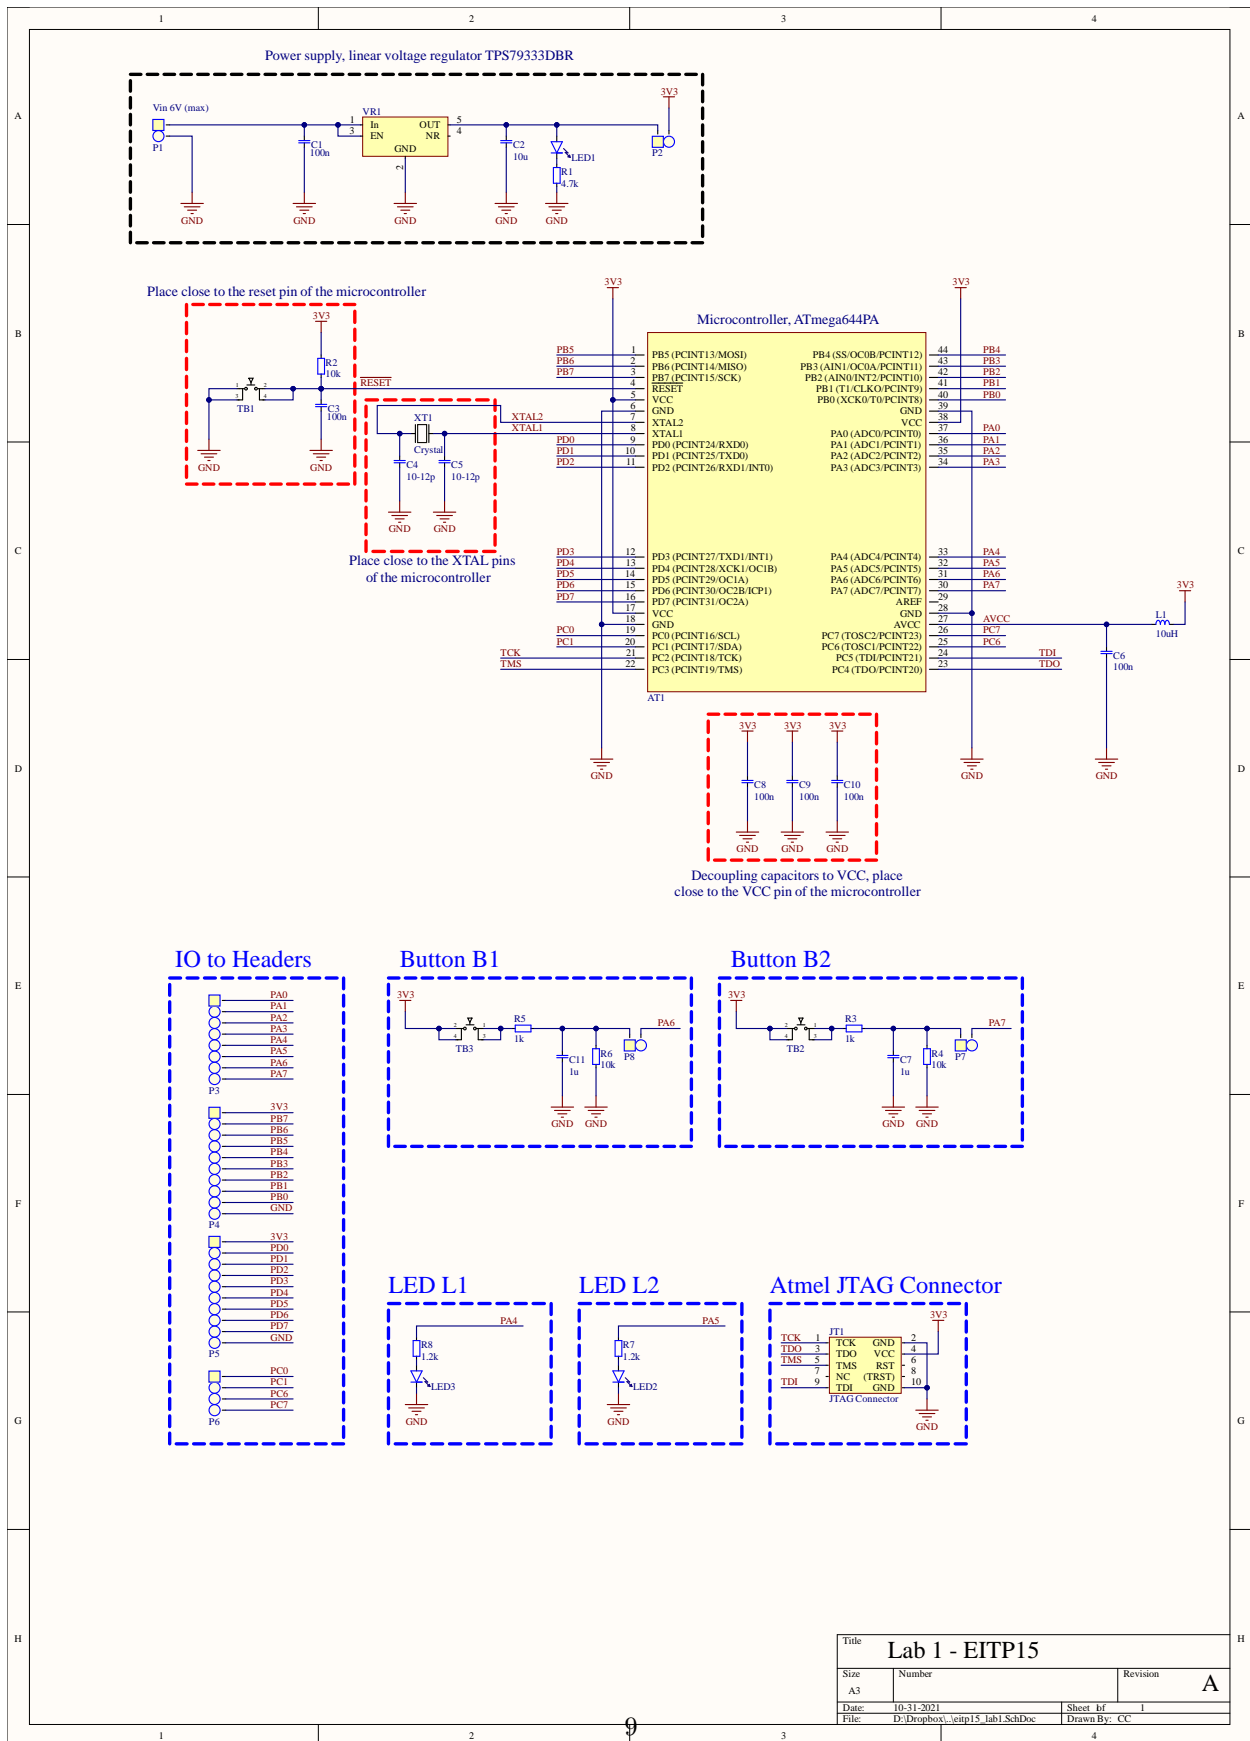

Figure 7: The schematic of the PCB.
In Figure 7 the schematic of the design is shown. All the necessary components can be found in the provided library. Some of the connections in the schematic is made by net labels. This is a why to connect parts/pins without placing a wire. This can be used to make the schematic more easily read, but should not be over-used.
See Table 1 for the components name in the lab library. The component designator is visible in Figure 7.
- Use the components in the library to make a copy of the schematic in Figure 7.